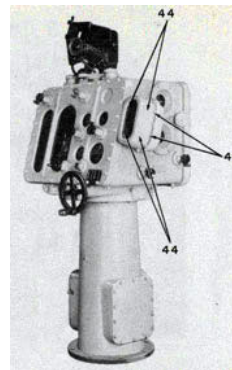

Figure 111-Removal of Internal Lighting Type Bearing Receiver.
42. To disassemble and remove the bearing receiver, internal lighting type, loosen the 12 cap nuts holding the cover. See figure 111.
44. Remove four bolts holding receiver chassis to case. See figure 111.